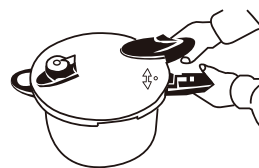

Fig. 4
1. Align the „o“ mark on the lid with the „▲“ mark on the pan handle (part. 15) (Fig. 4).